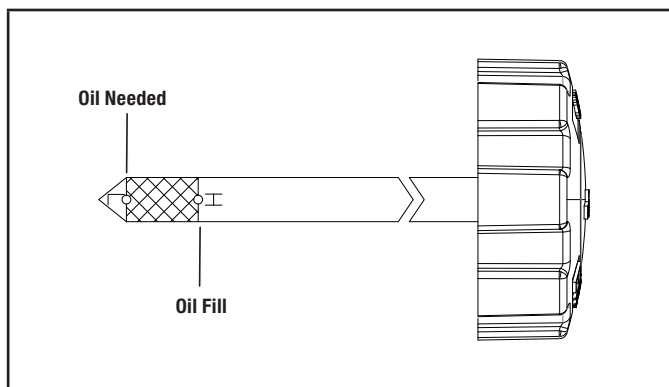

Figure 6B
- Insert the oil cap/dipstick into the oil filler neck but do not screw it in, then remove it to check the oil level (Fig. 6B).
4. If the oil level is near or below the lower limit mark on the dipstick, remove the oil cap/dipstick, and fill with the recommended oil to the upper limit mark. Do not overfill (Fig. 6B).